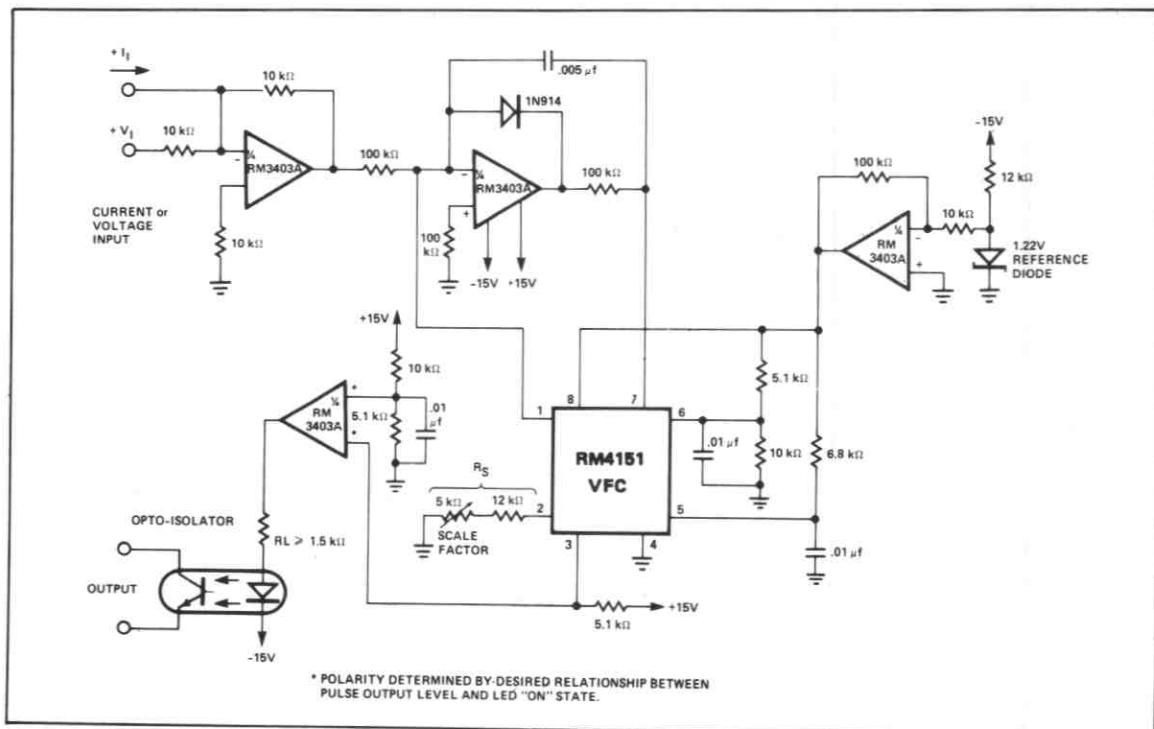

Figure 8. Opto-Isolated VFC
- IV. Design an opto-isolated VFC with high linearity which accepts a full scale input voltage of +10V. See Figure 8 for the final design. This circuit uses the precision mode